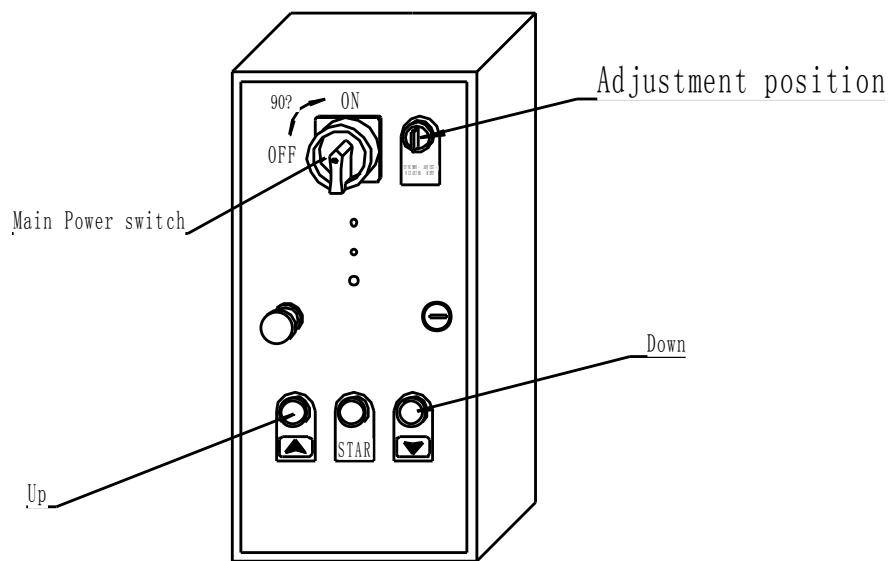

fig26
13) Place changeover switches of secondary electric cabinets on the other three vertical posts in “Adjustment” position (fig 26)